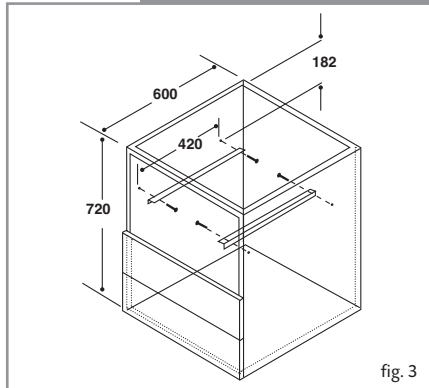

fig. 3
3. Fasten the support brackets into position as shown in figure 3. Adjust the brackets so that the distance from the top of the bracket to the underside of the worktop is 160mm.